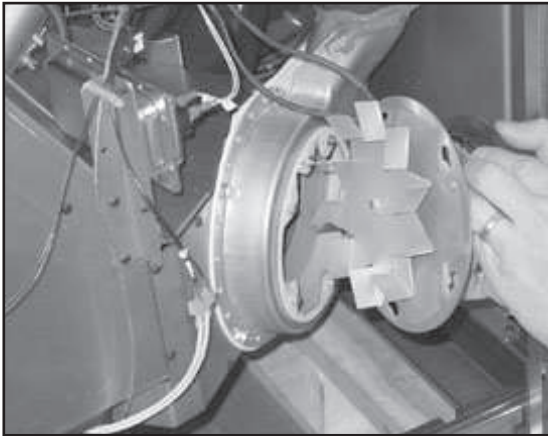

Figure 18.1
- c. Use a bottle brush and push the ash down to the bottom. Remove the combustion (exhaust) blower and then vacuum out the ash. **Figures 18.1 and 18.2 on page 18**.